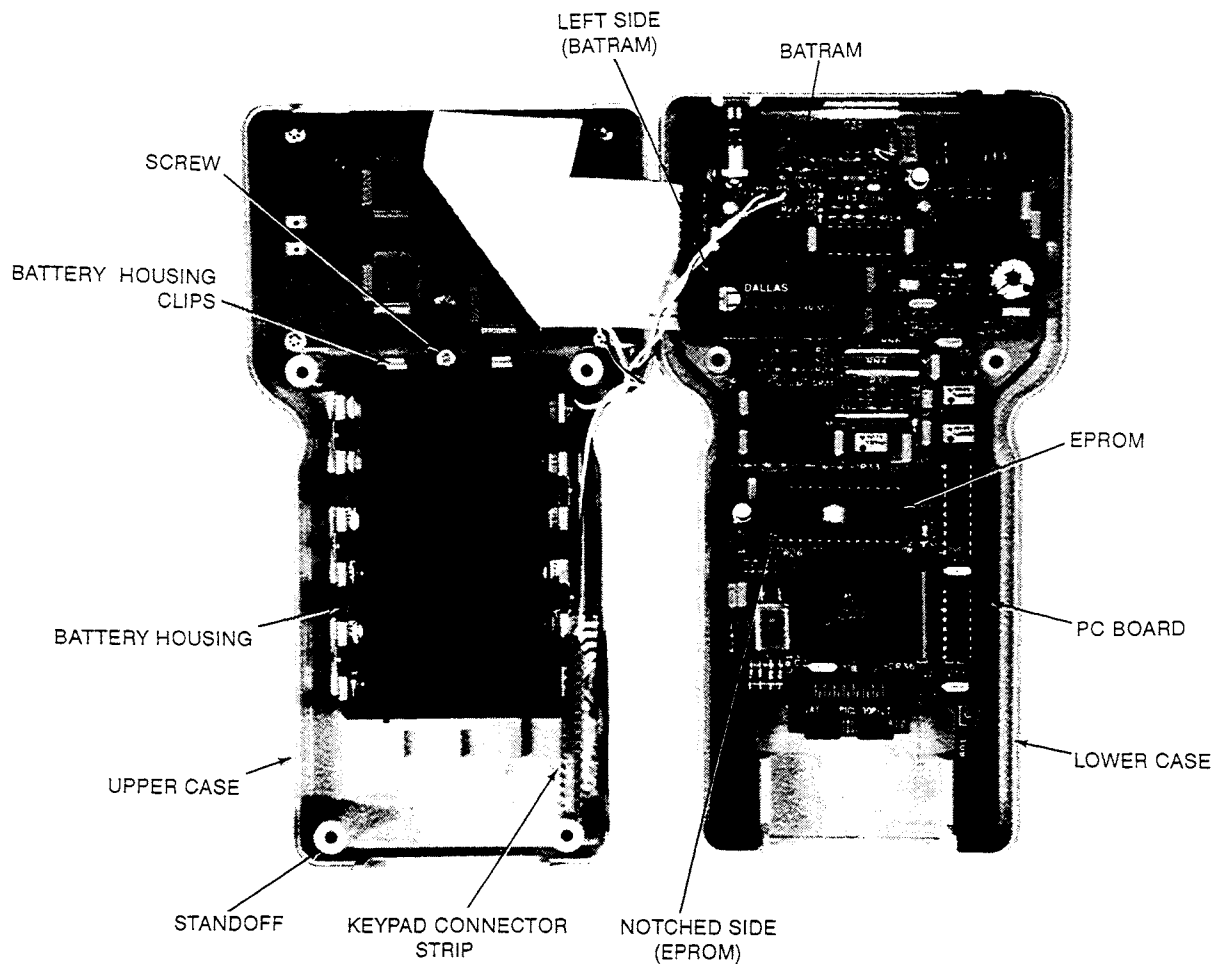

Figure 6-1. STT02 Internal Component Locations
3. Remove the four (4) screws from the lower case of the STT02.
5. Grasp the PC board by the edges and turn it over so the components on the board are facing up (see Figure 6-1).
The EPROM stores the operating software of the STT02 (EPROM shown in Figure 6-1). When needed, software revisions are made and issued to customers by Bailey. The following procedure is provided to assist the user in replacement of the EPROM.
2. Using an Integrated Circuit (IC) removal tool, carefully remove the EPROM (see Figure 6-1 for EPROM location).
- a. Grasp the EPROM at the edges that have no connecting pins (right-side and notched-side, Figure 6-1).
- b. Observe the position of the notched-side of the EPROM in Figure 6-1. Without fully inserting the connecting pins, set the EPROM in the connecting socket.
2. Using an Integrated Circuit (IC) removal tool, carefully remove the BATRAM (see Figure 6-1 for BATRAM location).
- a. Grasp the BATRAM at the edges that have no connecting pins (right-side and left-side, Figure 6-1).
- b. Observe the position of the BATRAM in Figure 6-1. (The print on the replacement BATRAM should be legible for correct assembly.) Without completely inserting the connecting pins, set the BATRAM in its socket.
Remove the battery housing using the following procedure (see Figure 6-1):
2. Remove screw securing battery housing (Figure 6-1).
7. Turn the battery housing over (batteries facing down), and reinsert housing as shown in Figure 6-1.